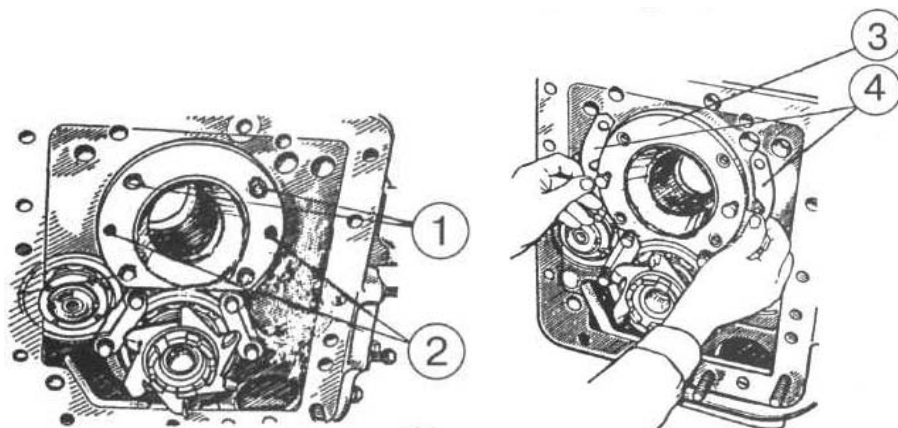

Figure 4.75
- c) press external shell of bearing 2 (Figure 4.75) off box body;